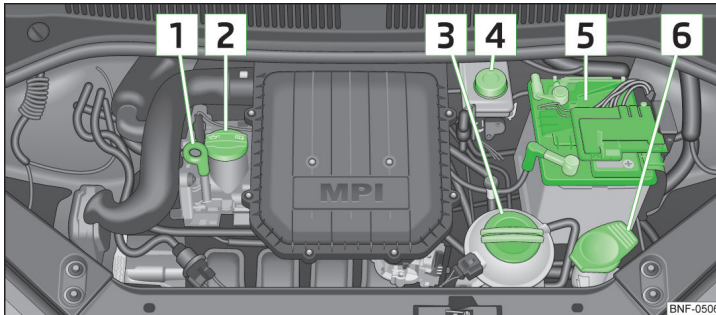

Fig. 98 Principle sketch: Engine compartment
Arrangement in the engine compartment » Fig. 98
- Unscrew the cap of the engine oil filler opening » Fig. 98 on page 109.